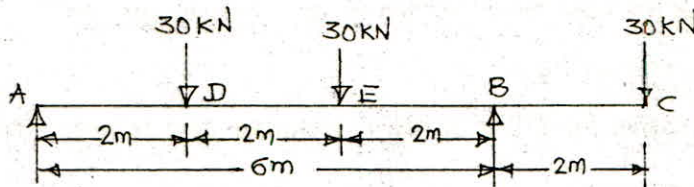

FIG. 2
- (B) Draw the SFD and BMD for the overhanging beam shown in Figure 2. 12